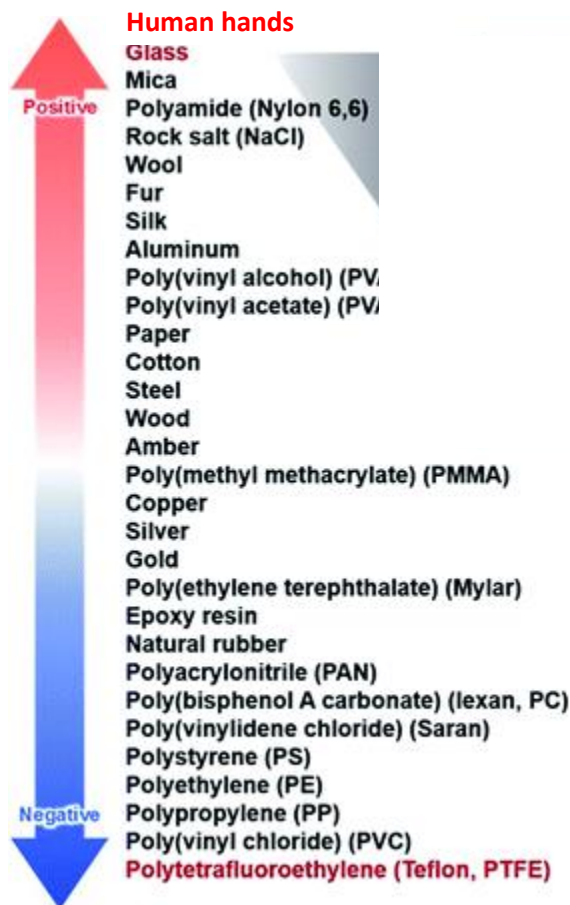

Figure 29 - Triboelectric Series
- VI.4 **Triboelectric Effect (source MIL-HDBK-263B (48)):** *“The generation of static electricity caused by contacting or rubbing two substances is called the triboelectric effect. A triboelectric series is a list of substances in an order of positive to negative charging as a result of the triboelectric effect. A substance higher on the list is positively charged (loses electrons) when contacted with a substance lower on the list (which gains electrons). The order of ranking in a triboelectric series is not always a constant or repetitive. Furthermore, the degree of separation of two substances in the triboelectric series does not necessarily indicate the magnitude of the charges created by triboelectric effect. Order in the series and magnitude of the charges are dependent upon the properties of the substance, but these properties are modified by factors such as purity, ambient conditions, pressure of contact, speed of rubbing or separation, and the contact area over which the rubbing occurs. **In addition to the rubbing of two different substances, substantial electrostatic charges can also be generated triboelectrically when two pieces of the same material, especially common plastic in intimate contact, are separated as occurs when separating the sides of a plastic bag. Some metals, can create significant charges from triboelectric generation. Aluminum, when rubbed with a common plastic can generate substantial electrostatic charges.”***
- VI.5 **Figure 29** is a Triboelectric series showing relative positions of various materials obtained from *Effect of the relative permittivity of oxides on the performance of triboelectric nanogenerator*, Yeon Joo Kim, Jaejun Lee, Sangwon Park, Chanho Park, Cheolmin Park and Heon-Jin Cho, *RSC Adv.*, 2017, 7, 49368; modified to show the position of human hands.